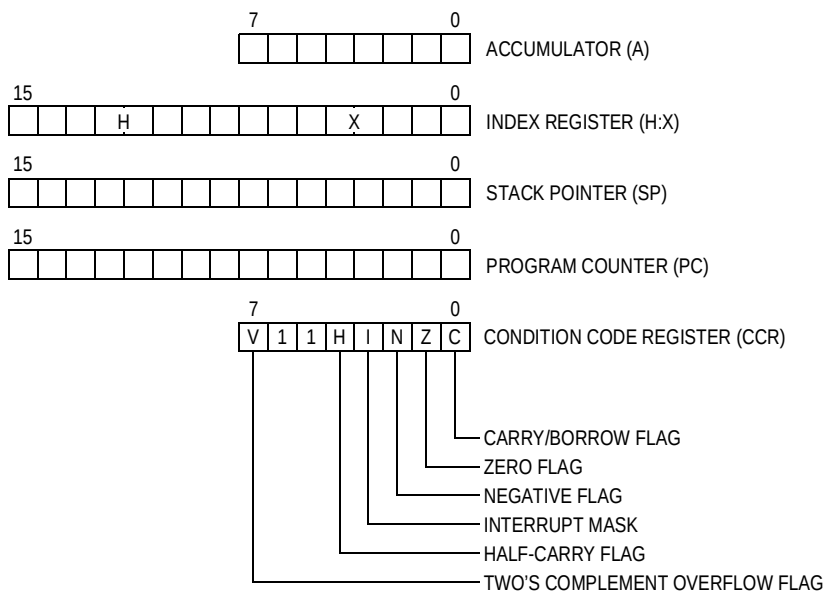

Figure 6-1. CPU Registers
**Figure 6-1** shows the five CPU registers. CPU registers are not part of the memory map.